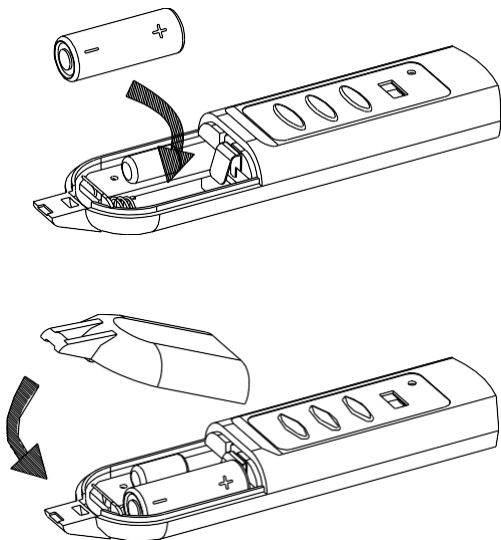

FIGURE 13
- (2) Insert a 12V alkaline battery into the battery compartment and then replace the battery cover. (FIGURE 13)